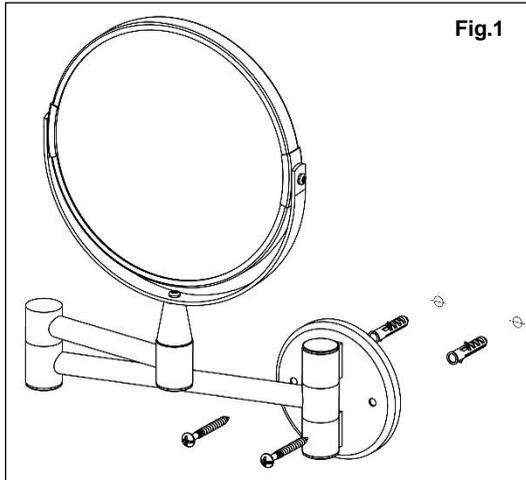

Fig.1
2. Mark its screw fixing positions on the wall using the hole centres of the mirror bracket as a template. (See Fig. 1)